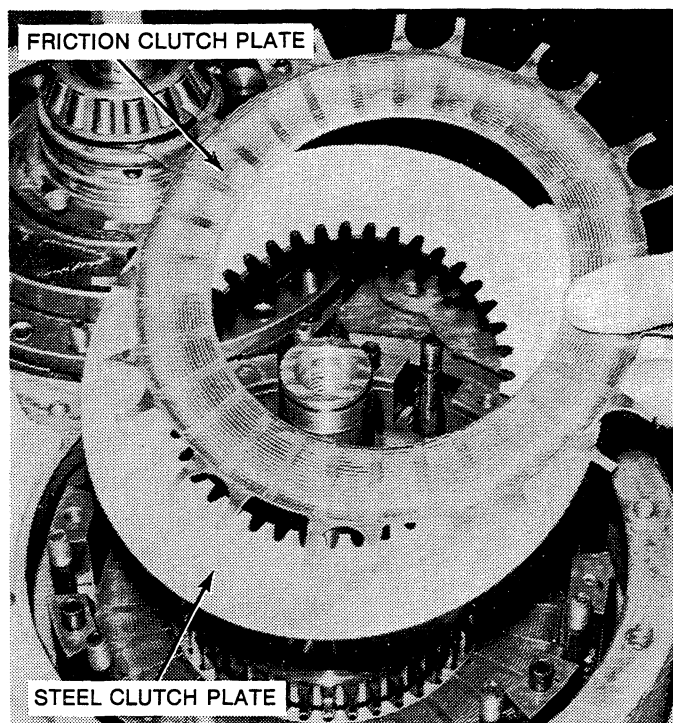

Figure 6-16. *Removing or Installing Clutch Plates.*
8. Remove the driven (steel) (Figure 12-2, 28) and driving (sintered) clutch plates (29). See Figure 6-16.